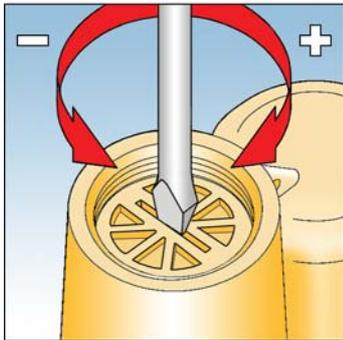

Fig. 5
- 4) If safety shut-off device is fitted unscrew reset spindle end cap and firmly pull. Hold in this position until the outlet pipework is fully pressurised, then release reset spindle end cap gently. See Fig. 5.
**WARNING: DO NOT UNDER ANY CIRCUMSTANCES WEDGE OPEN SAFETY SHUT-OFF RESET END CAP AS THIS WILL NOT ALLOW THE SAFETY DEVICE(S) TO FUNCTION IN ADVERSE PRESSURE CONDITIONS.**